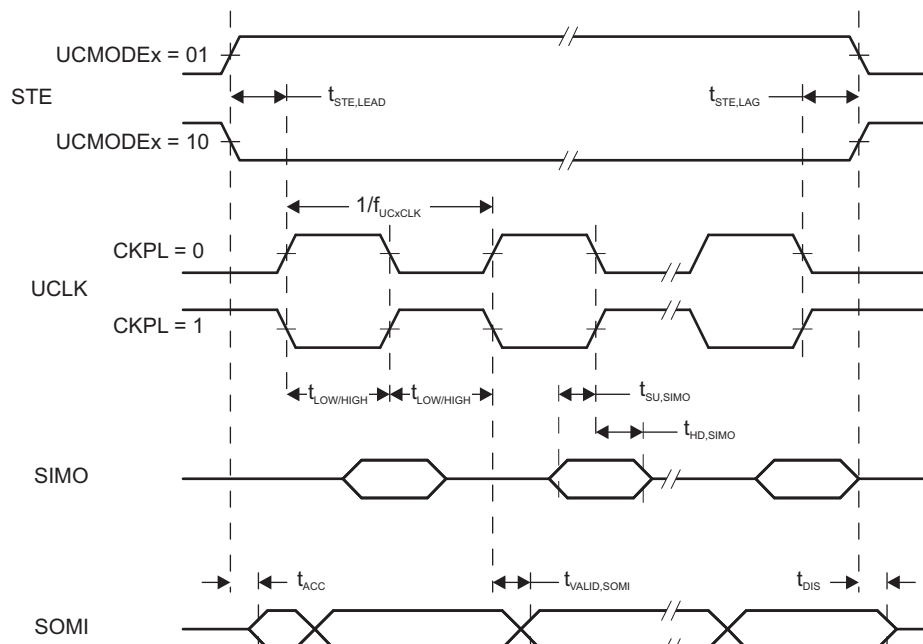
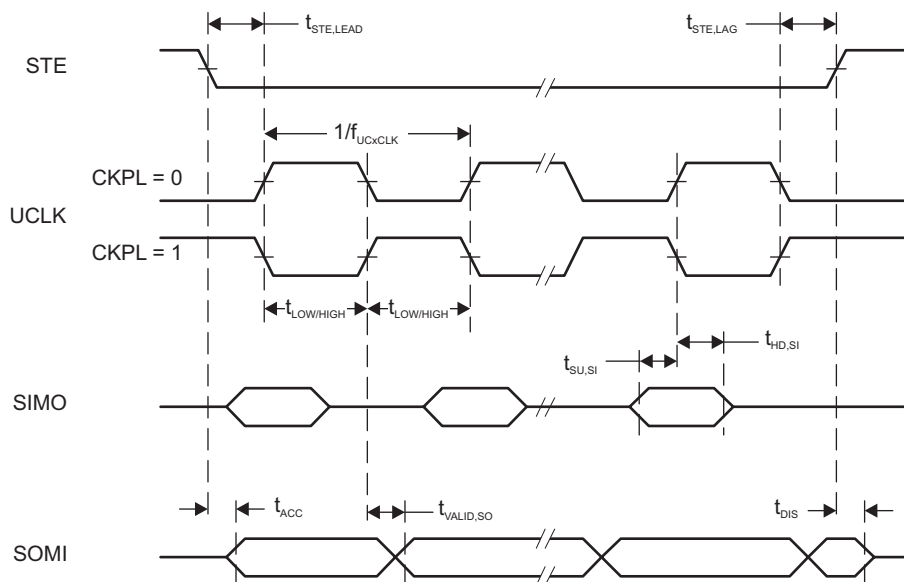

Figure 5-8. SPI Slave Mode, CKPH = 0
Figure 5-9. SPI Slave Mode, CKPH = 1
(2) Specifies the time to drive the next valid data to the SOMI output after the output changing UCLK clock edge. See the timing diagrams in Figure 5-8 and Figure 5-9.
(3) Specifies how long data on the SOMI output is valid after the output changing UCLK clock edge. See the timing diagrams in Figure 5-8 and Figure 5-9.